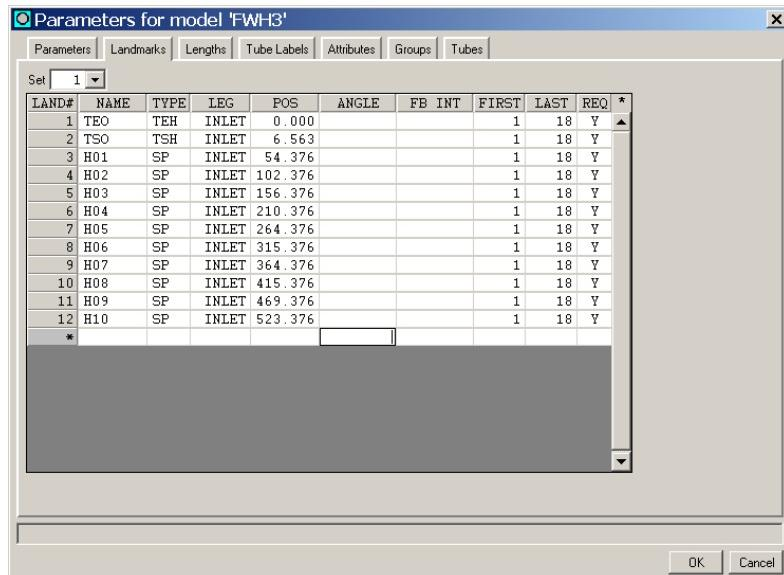

Figure 66. Parameters dialog - Landmarks Tab Showing Landmark Set 1
- STEP 4 :** When you have finished, the **Landmarks** tab of the **Parameters** dialog should look like the one shown in Figure 66. Click **OK** on the **Parameters** dialog.